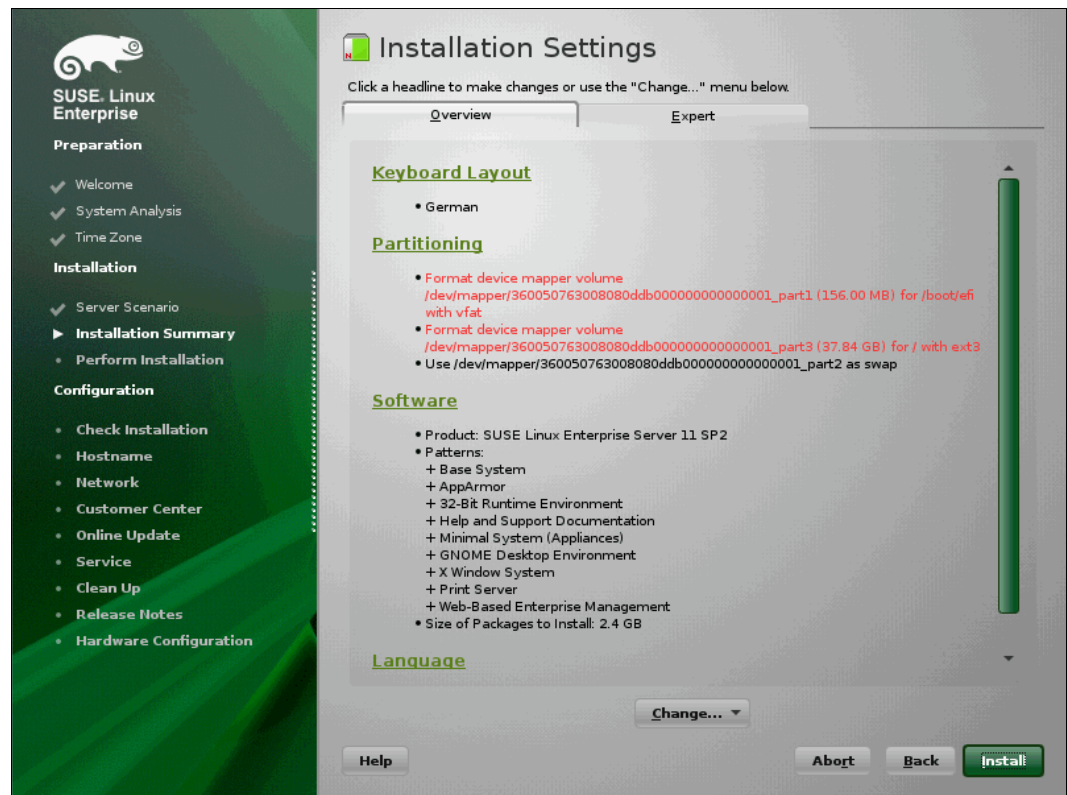

Figure 9-46 Install Settings
13. In the Installation Settings panel (Figure 9-46), you can see the Partitioning. Click **Install**.